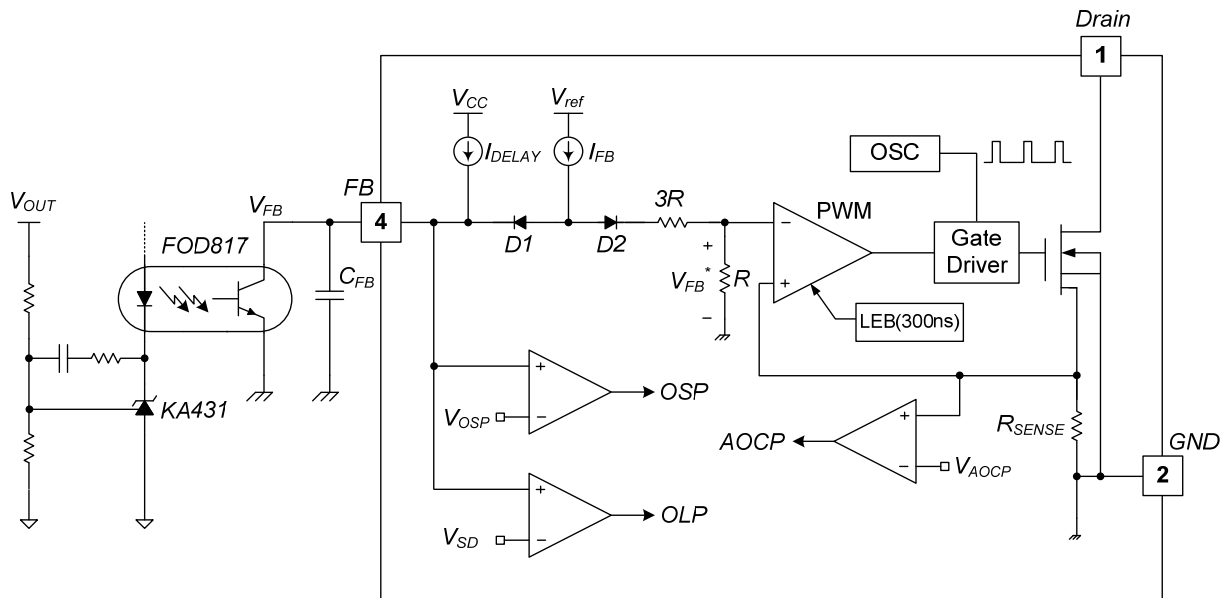

Figure 18. Pulse Width Modulation Circuit
3. Feedback Control: This device employs current-mode control, as shown in Figure 18. An opto-coupler (such as the FOD817) and shunt regulator (such as the KA431) are typically used to implement the feedback network. Comparing the feedback voltage with the voltage across the R_{SENSE} resistor makes it possible to control the switching duty cycle. When the reference pin voltage of the shunt regulator exceeds the internal reference voltage of 2.5 V, the opto-coupler LED current increases, pulling down the feedback voltage and reducing drain current. This typically occurs when the input voltage is increased or the output load is decreased.
3.1 Pulse-by-Pulse Current Limit: Because current-mode control is employed, the peak current through the SenseFET is limited by the inverting input of the PWM comparator (V_{FB}^*), as shown in Figure 18. Assuming that the $90\ \mu\text{A}$ current source flows only through the internal resistor ($3R + R = 27\ \text{k}\Omega$), the cathode voltage of diode D2 is about 2.5 V. Since D1 is blocked when the feedback voltage (V_{FB}) exceeds 2.5 V, the maximum voltage of the cathode of D2 is clamped at this voltage. Therefore, the peak value of the current through the SenseFET is limited.